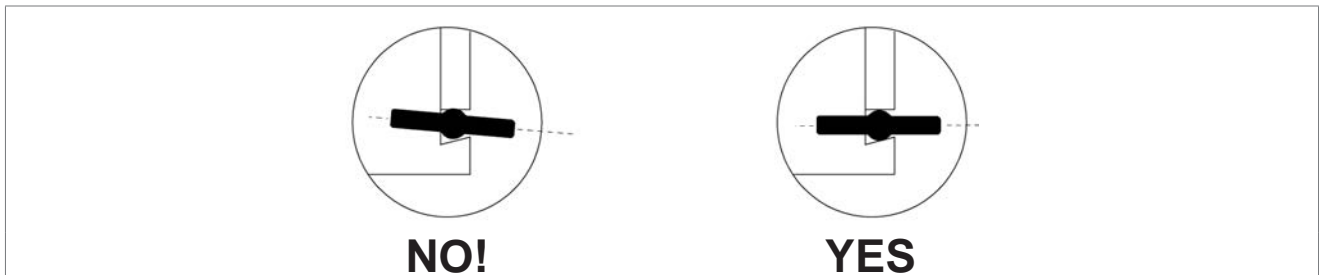

Fig. 24
- 3) Insert the original key into the left-hand clamp with the central stop up against the clamp (left-hand side) and the bit parallel to the clamp (Fig. 24); tighten the knob (J1) to secure the key.
- 4) Insert the key to be cut into the right-hand clamp with the central stop up against the clamp (left-hand side) and the bit parallel to the clamp (Fig. 24); tighten the knob (J1) to secure the key.
- 5) Start the machine with switch (K) and proceed with cutting.
- 6) Move the carriage with lever (A) to take the original key cuts into contact with the tracer point.
- 8) When cutting is finished, turn off the switch (K) and remove the keys.